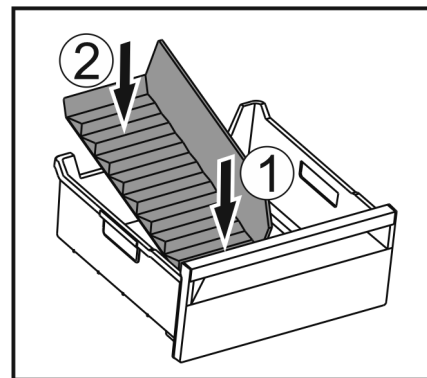

Fig. 61
- ▶ Put in the divider at the front first Fig. 61 (1).
- ▶ Lower the rear part Fig. 61 (2).